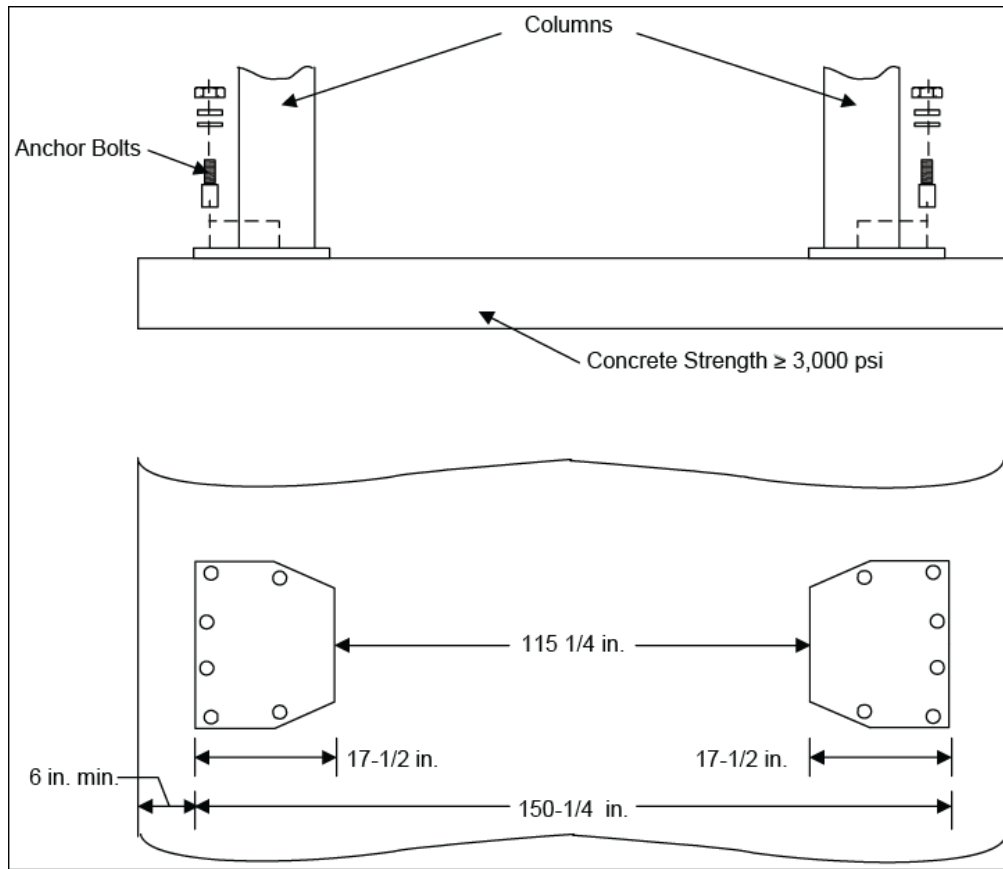

Figure 2-3. Placement of Columns on Foundation
STEP 5: Position the columns facing each other 150-3/4 in. outside base plates (see figure 2-3). Allow a minimum of 6 in. from the column base plate to the foundation edge. Square the columns by measuring diagonally from corner points on base plates (within 1/4 in.). Trace around the column base plates to make sure that positions do not shift in the following steps.